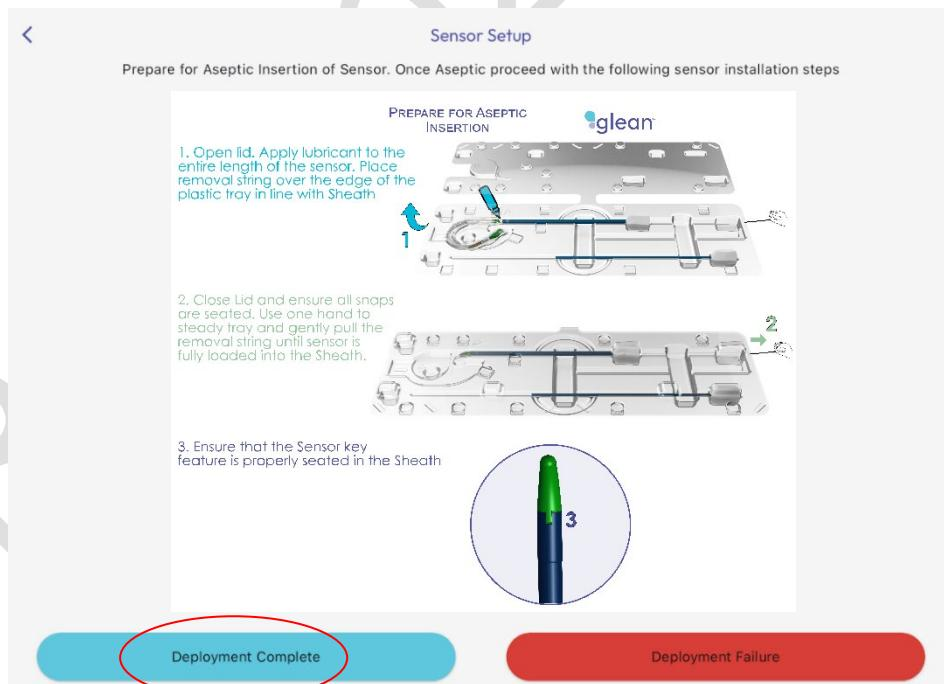

Figure 34. Sensor Deployment Complete or Failure
14. Click "Deployment Complete" or "Deployment Failure" on the Glean Mobile App (Clinician) when Sensor deployment is completed/failed (Figure 34).
12. Click "Deployment Complete" or "Deployment Failure" on the Glean Mobile App (Clinician) when Sensor deployment is completed/failed (Figure 34).